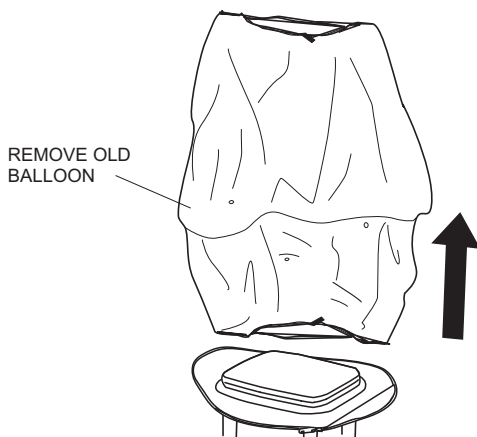

Figure 41. Removing Old Balloon
2. Slide out the old or worn balloon over the top of the lamp guard assembly. See Figure 41.